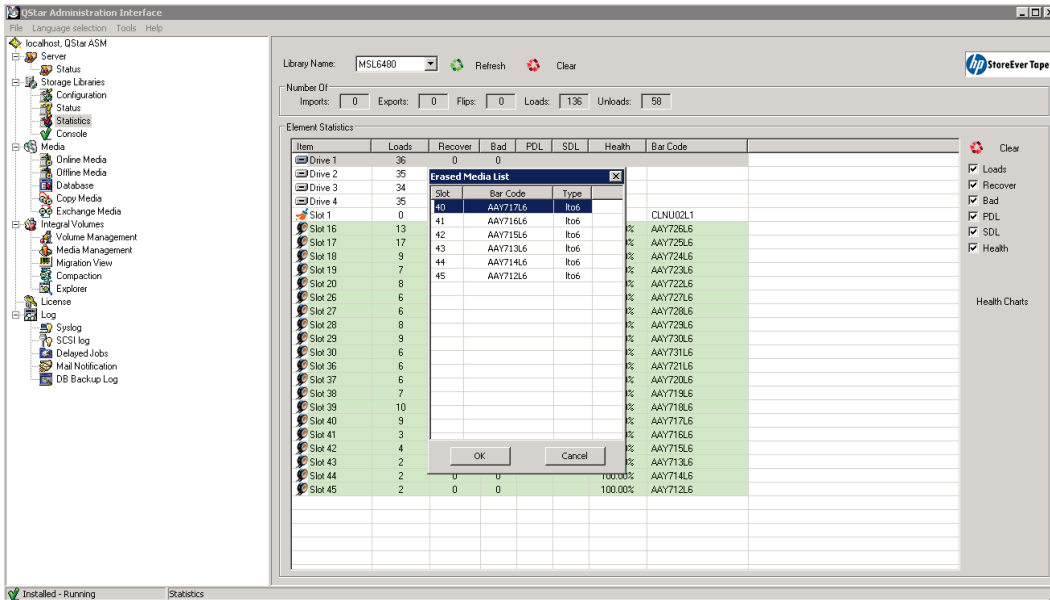

Figure 28. Selecting media that erased to use for the drive verification test
2. A list of erased media will be displayed. Select one of the media listed that is known-to-be-good and click **OK**. See **figure 28** as an example. A warning message will be displayed reminding you that the media content will be destroyed. After you acknowledge the warning message, another message will be displayed stating that you can view the status for the verification job by selecting **Delayed Jobs** under **Log** in the QStar Administration Interface.